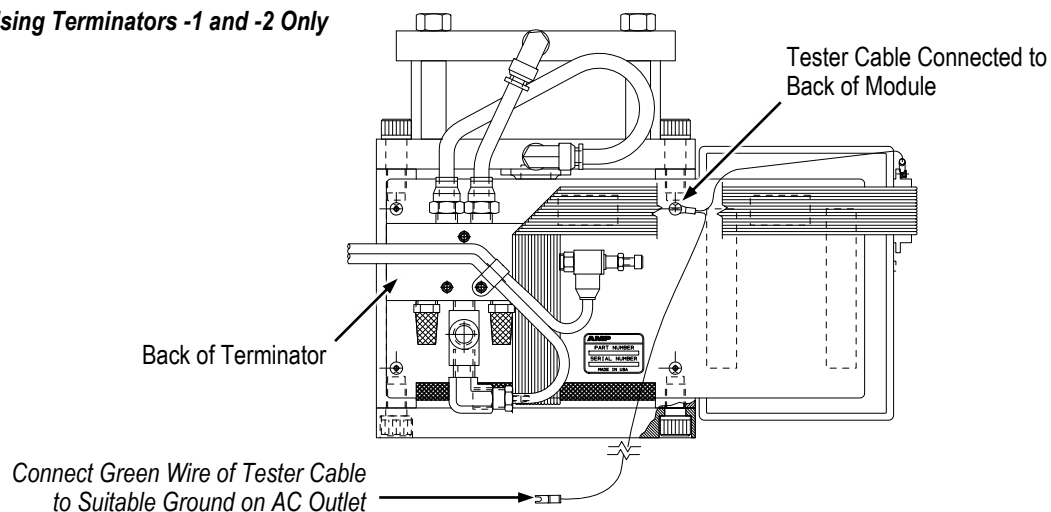

Figure 2
4. For terminators -1 and -2 (only), refer to Figure 2, and: